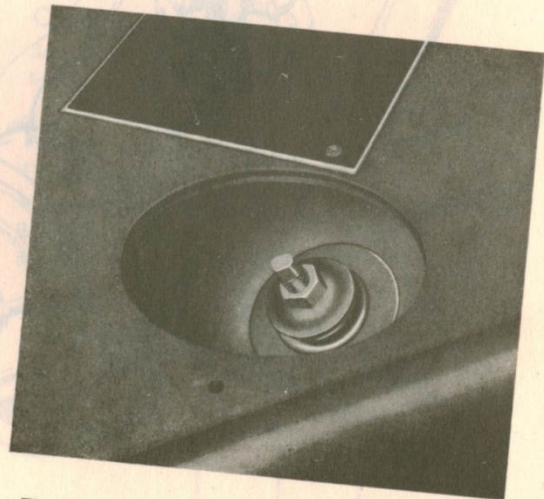

Fig. 9-7. Upper attachment of rear shock absorber
1. Remove the upper attaching, nut, washer and rubber bushing through the hole in the rear window shelf. See Fig. 9-7.